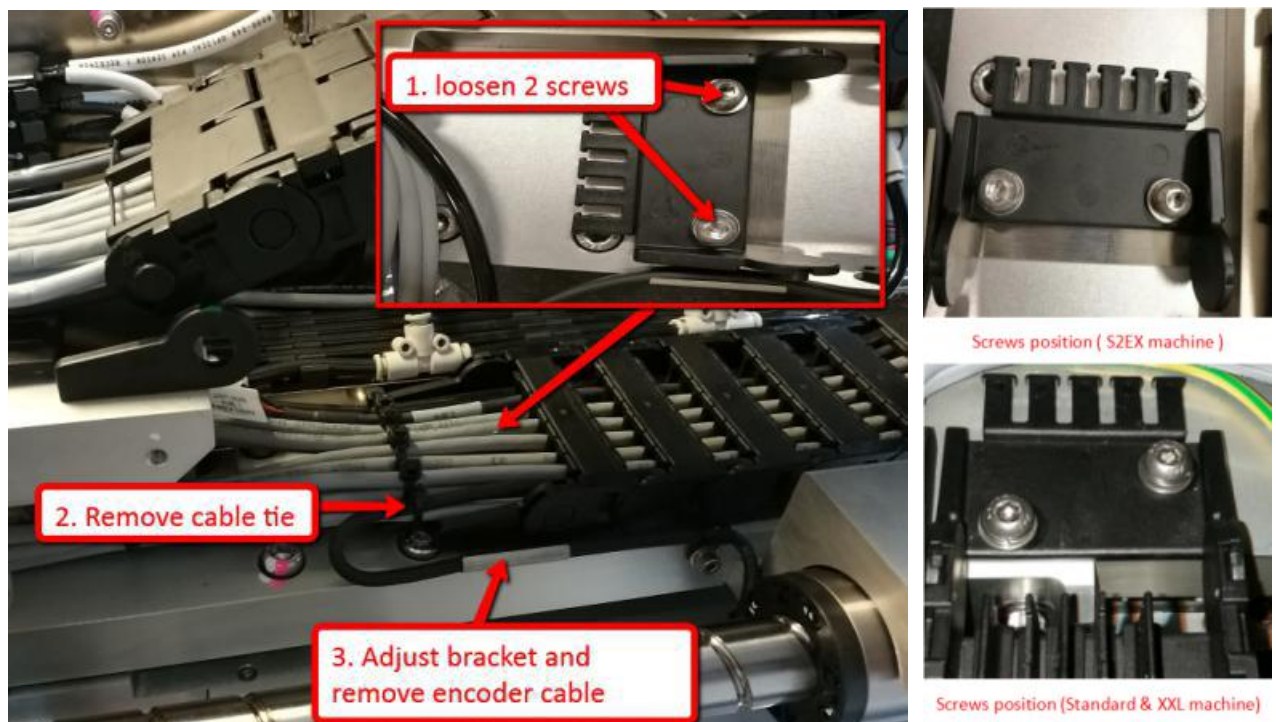

Figure 16
18. Loosen 2 screws and remove encoder cable as shown in Figure 16.